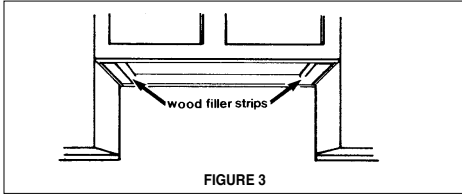

FIGURE 3
3. If the cabinet bottom is recessed, wood blocks need to be installed to insure proper alignment with the cabinet bottom. Wood blocks should be flush or recessed $1/16''$ to $1/8''$ within the cabinet bottom as indicated in **FIGURE 3**.